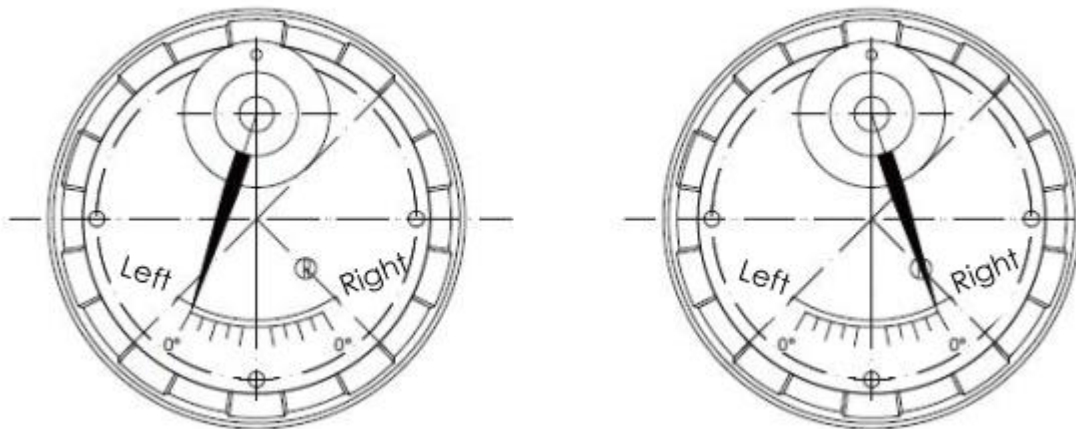

Figure 8 Transmitter Head Installation
6.3.3 The transmitter head is connected to the heat sink through the connecting plate. When installing, insert the principal axis head into the coupling hole of the transmitter head, and the coupling should not be significantly distorted. The transmitter's meter head can be installed on the left or right side. The installer is installing the interface on the float. If the transmitter is on the left hand side of the installer, the head end pointer should be turned to the "left 0" position. If the transmitter is on the right hand side of the installer, turn the rear end pointer of the meter to the "right 0", and then tighten the coupling to the set screw of the principal axis when moving the float to the lowest measurement position. As shown in Figure 8.